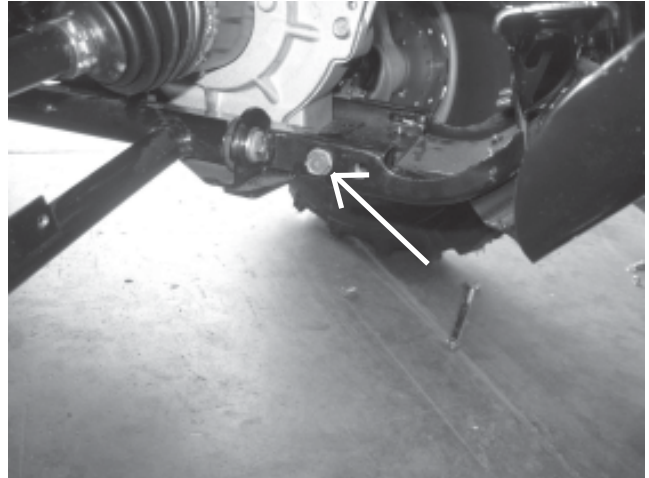

Figure 4
5. Retighten the front and front bottom frame bolts shown in Figure 2. Remove the two side frame rail bolts (1 per side), see Figure 4. These will be used in the front hole in which Part B connects to the frame rail.